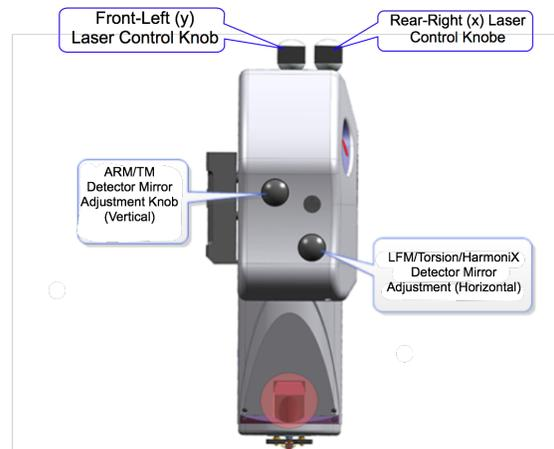

Figure 4. Dimension Icon Scanner Head side view.
12) If the tip is out of focus to prevent the laser alignment, see Step 11(ii). Align the laser on the cantilever and maximize the sum of the signals on the detector using the knobs on the top of the scanner head as shown in Figures 4 & 5. A video is available in the software to help you if needed. Do not turn the knobs too far in one direction, as this can break the mechanism and even worse break parts inside the head. **NEVER FORCE THE KNOBS.**
13) Align the signal on the detector by adjusting the knobs on the left of the scanner head, Figure 4,